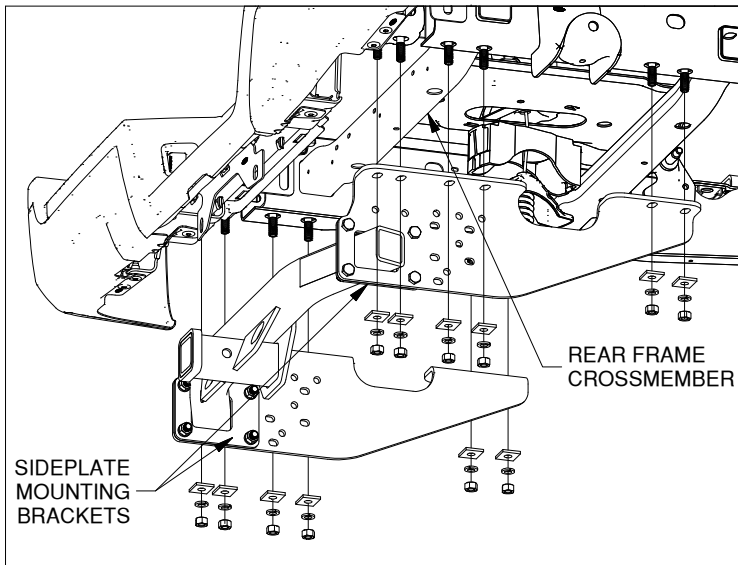

Figure C1: View looking up at rear of truck.
1. Position the hitch, by placing the holes in the ears of the side plates over the bolts installed in the frame. Secure these connections with spacers, lock washers, and nuts as shown in figure C1. Hand tighten the hardware at this time.